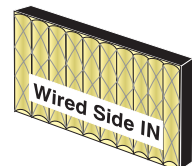

**Figure 4.7.**
3. Insert the new filters with the wired side in. (Figure 4.7.)